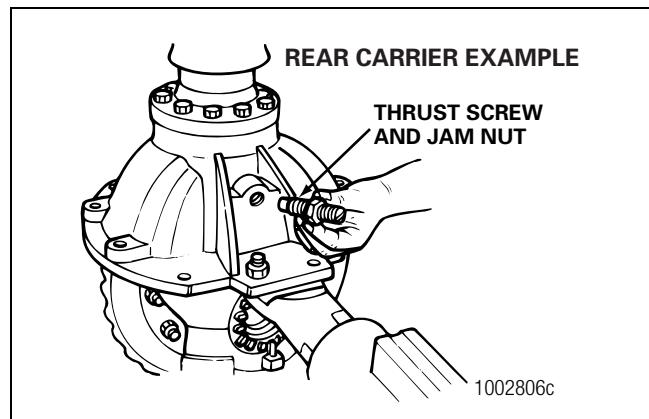

Figure 5.78
2. Install the jam nut onto the thrust screw. Thread the jam nut to the middle of the thrust screw. Figure 5.78.